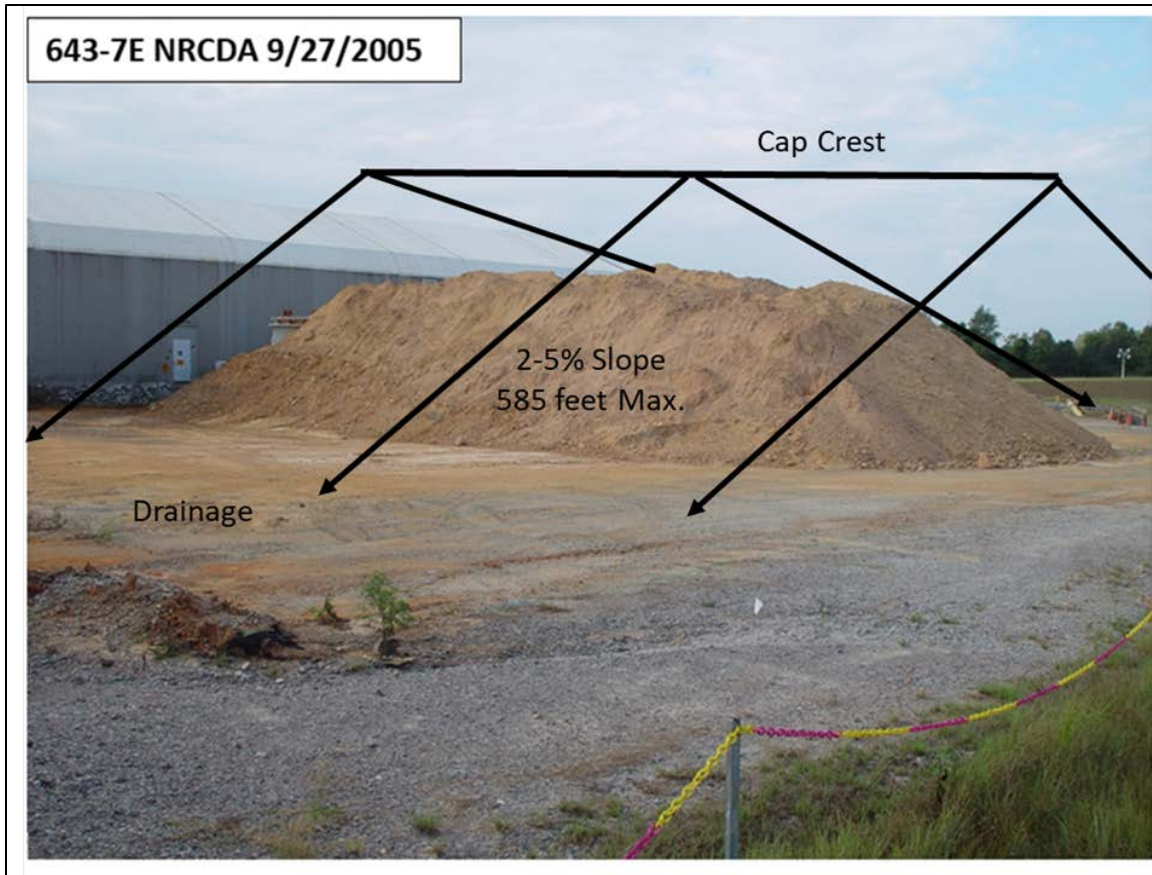

Figure 6-2. Final Closure Cap Crest and Slope Concept for 643-7E NRCDA.
Two areas within and adjacent to the E-Area LLWF at the SRS are used as disposal sites for reactor components from the U.S. Navy. As described in detail by Wohlwend and Butcher (2018), the reactor components arrive by rail and are moved by crane to the at-grade gravel disposal pads, currently 643-26E (NR26E) and formerly 643-7E (NR07E), as illustrated in Figure 6-1. Naval Reactor (NR) waste contains highly radioactive components consisting of activated corrosion-resistant metal alloy contained within thick steel casks, and auxiliary equipment primarily contaminated with activated corrosion products at low levels and contained within thinner-walled bolted containers. The NR07E disposal pad contains 41 casks up to 10.5 feet in diameter by 17.7 feet tall and is closed to future receipts. Structural fill has been placed around and over the NR07E disposal pad for radiation shielding as shown in Figure 6-2. The current NR waste projections for NR26E are for 33 heavily shielded, welded casks (31 are already in place on the NR26E pad) and 381 thinner-walled, bolted containers through the year 2040. At the assumed start of institutional control on September 28, 2040, structural fill will be placed around and over casks and containers on the NR26E pad as was done for NR07E. Unlike for Slit and Engineered Trenches, during institutional control, an HDPE interim cover will not be placed over the structural fill surrounding the NRCDA. The conceptual model for degradation of the bolted containers assumes hydraulic, but not structural, failure immediately when the structural fill is placed. Because of the robust nature of the containers and waste forms, they are treated as non-crushable containers and zero subsidence of the final closure cap is assumed to occur. Similarly, the welded casks are assumed to fail hydraulically, but not structurally, after 750 years based on the estimated corrosion time for a minimum 1.25-inch weld. Dynamic compaction of the NRCDA before installation of the final closure cap is prohibited to preserve the structural integrity (non-crushable) assumption.
Because the NRCDA casks and containers will be assumed to maintain their structural integrity throughout the operational, institutional control, and final closure cap periods, an intact infiltration scenario will apply for all time (i.e., no cap subsidence). The NR26E pad will be covered by the main E-Area LLWF closure cap. The slope and maximum slope length above the NR26E pad are two percent and approximately 200 feet, respectively. The NR07E pad will require an individual closure cap as shown schematically in Figure 6-2. Like the main closure cap design, the specifications for the NR07E closure cap will include a slope ranging from two to five percent and a maximum slope length of 585 feet. The actual slope length will be substantially shorter.